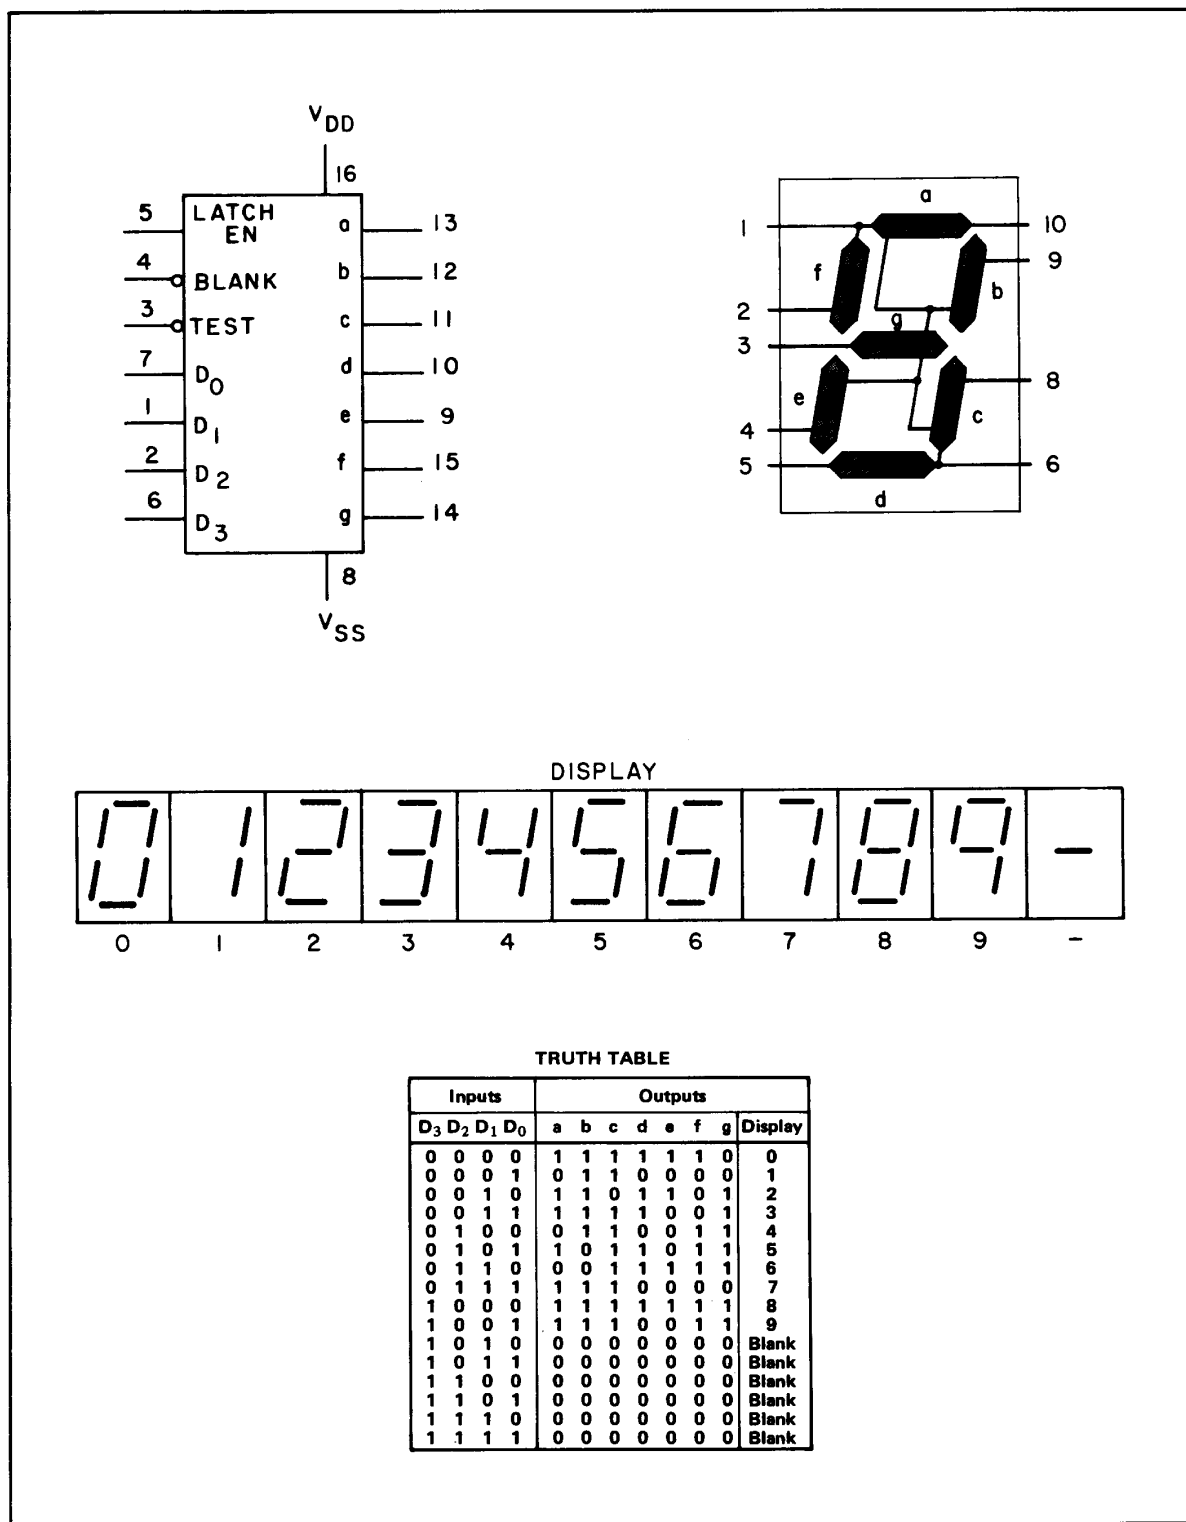

Figure 8-24. Segment Driver
**Segment Driver.** ① At the end of the measurement cycle, the BCD data in outputs  $Y_0$  through  $Y_3$  of A2U1 is transmitted to Decoder/Driver A2U3 as data inputs  $D_0$  through  $D_3$ . The decoded outputs, A2U3 pins 9 through 15, are connected to the appropriate segment anodes to display the decoded numbers in numeric displays A22U1 through A22U4.
Figure 8-24 shows the pin connections to A2U3, the seven segments of a numeric display, and a truth table. The Latch Enable (HLE), pin 5, is wired to ground (logic low). The Blanking Input (LBI), pin 4, and the Lamp Test (LLT), pin 3, are always at logic high. A2TP2 (LT) may be grounded to test the numeric displays by lighting all seven segments of A22U2 through A22U4 and segments b and c (the numeral 1) of A22U1. The Lamp Test does not test the minus sign, segment g.